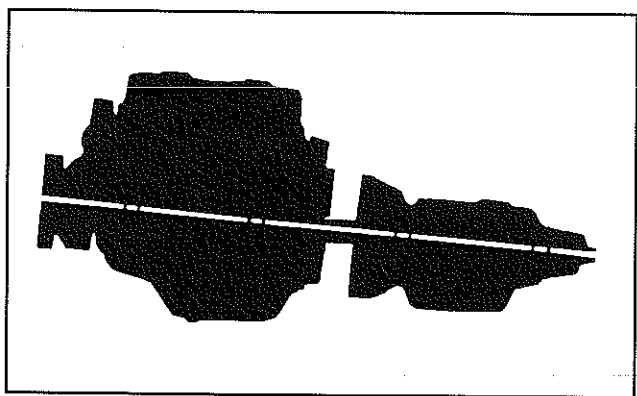

Figure 1
2. Once the transmission is under the vehicle, raise the jack to get proper alignment with the engine (Figure 1). Insert the input shaft into the clutch hub and push on the transmission to insert the shaft into the disk hub.